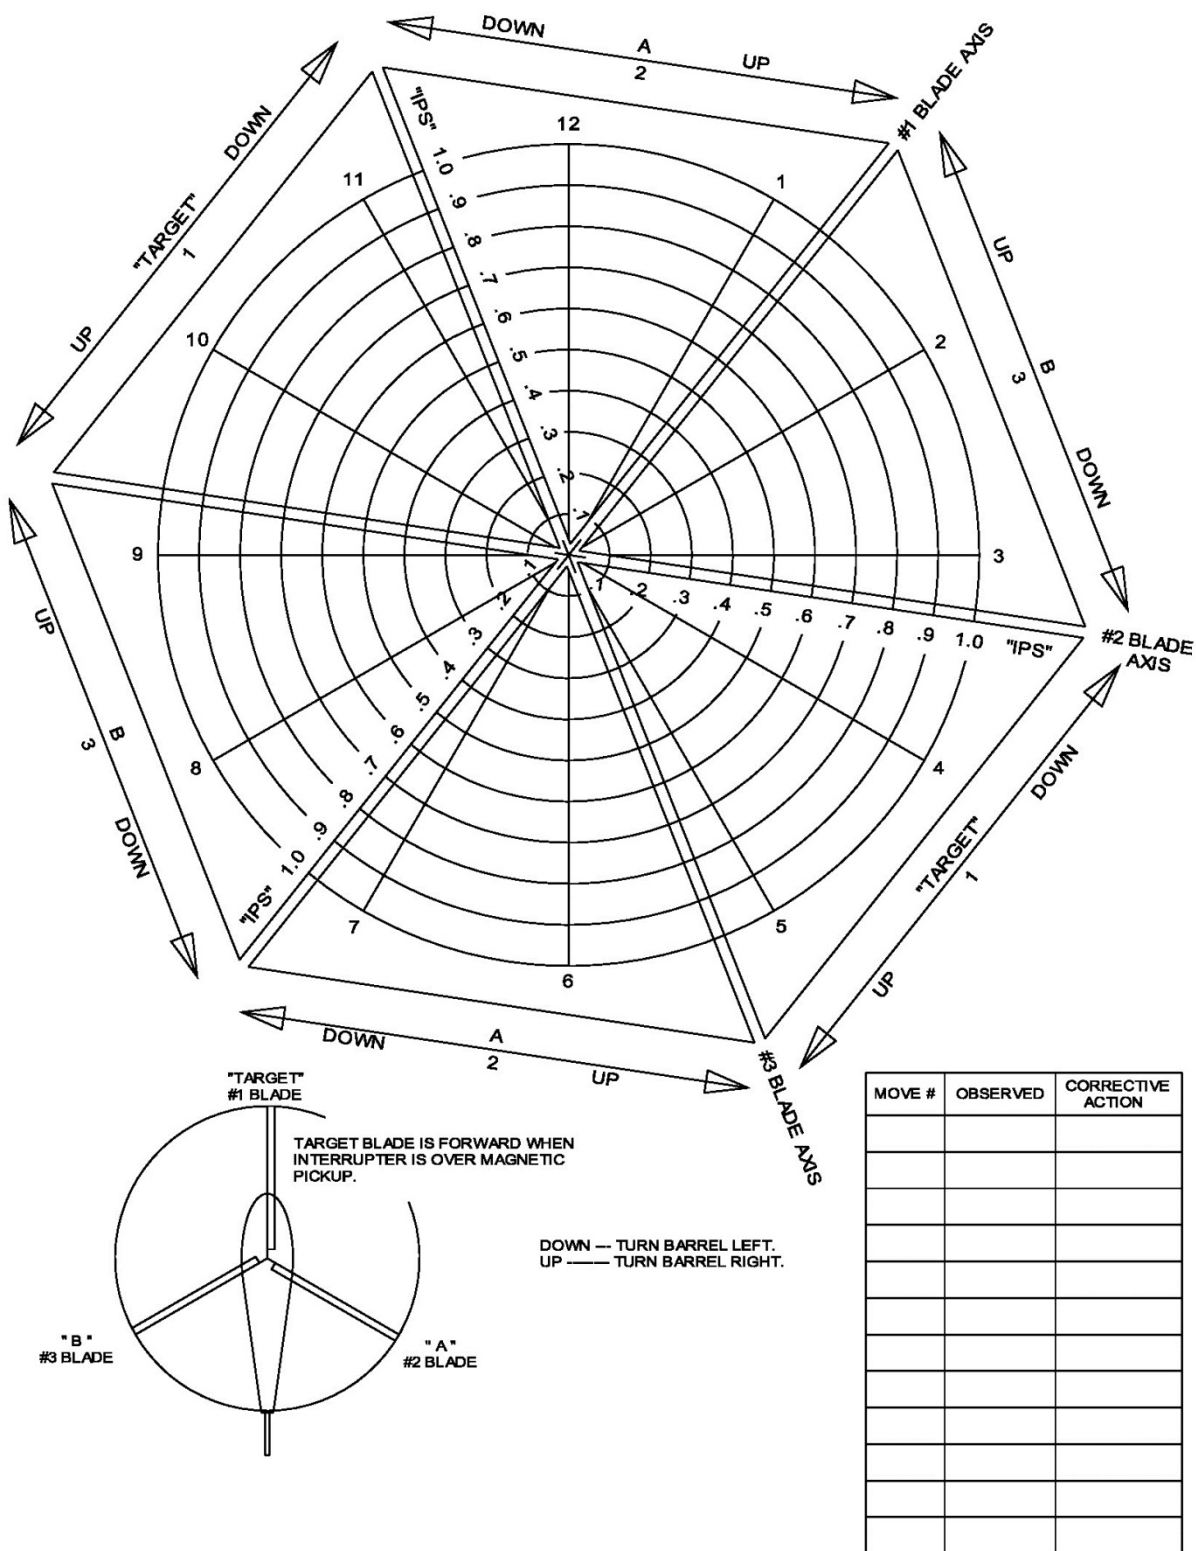

Figure 12-4. Vertical Accelerometer Channel "B" Polar Chart
- (7) Record the ips reading and the clock angle. Using the Vertical Velocimeter Channel B Polar Chart (Figure 12-4), adjust track for ips readings of less than .2 using pitch links.
- (1) Using pitch links, re-track the hover to less than .2 ips using Figure 12-4 (vertical polar chart). If the above procedure is followed, once the hover has been tracked smooth, the cyclic feedback should not reoccur.
- (1) Forward flight is tracked using the inboard blade tabs.
- (b) Using the same polar chart (Figure 12-4) adjust the forward flight to less than .2 ips with the inboard tabs.